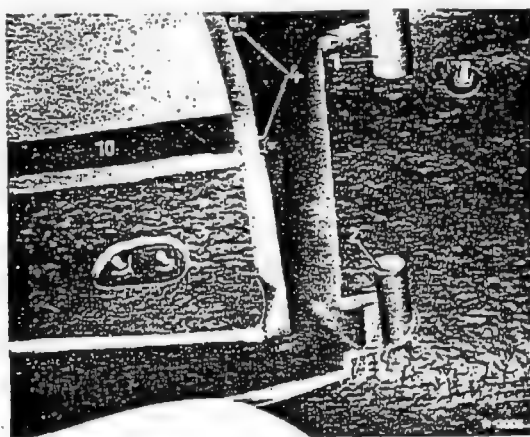

Fig. 83-2/14
5. Remove the water drain hose from the right water tank (Fig. 83-2/14).